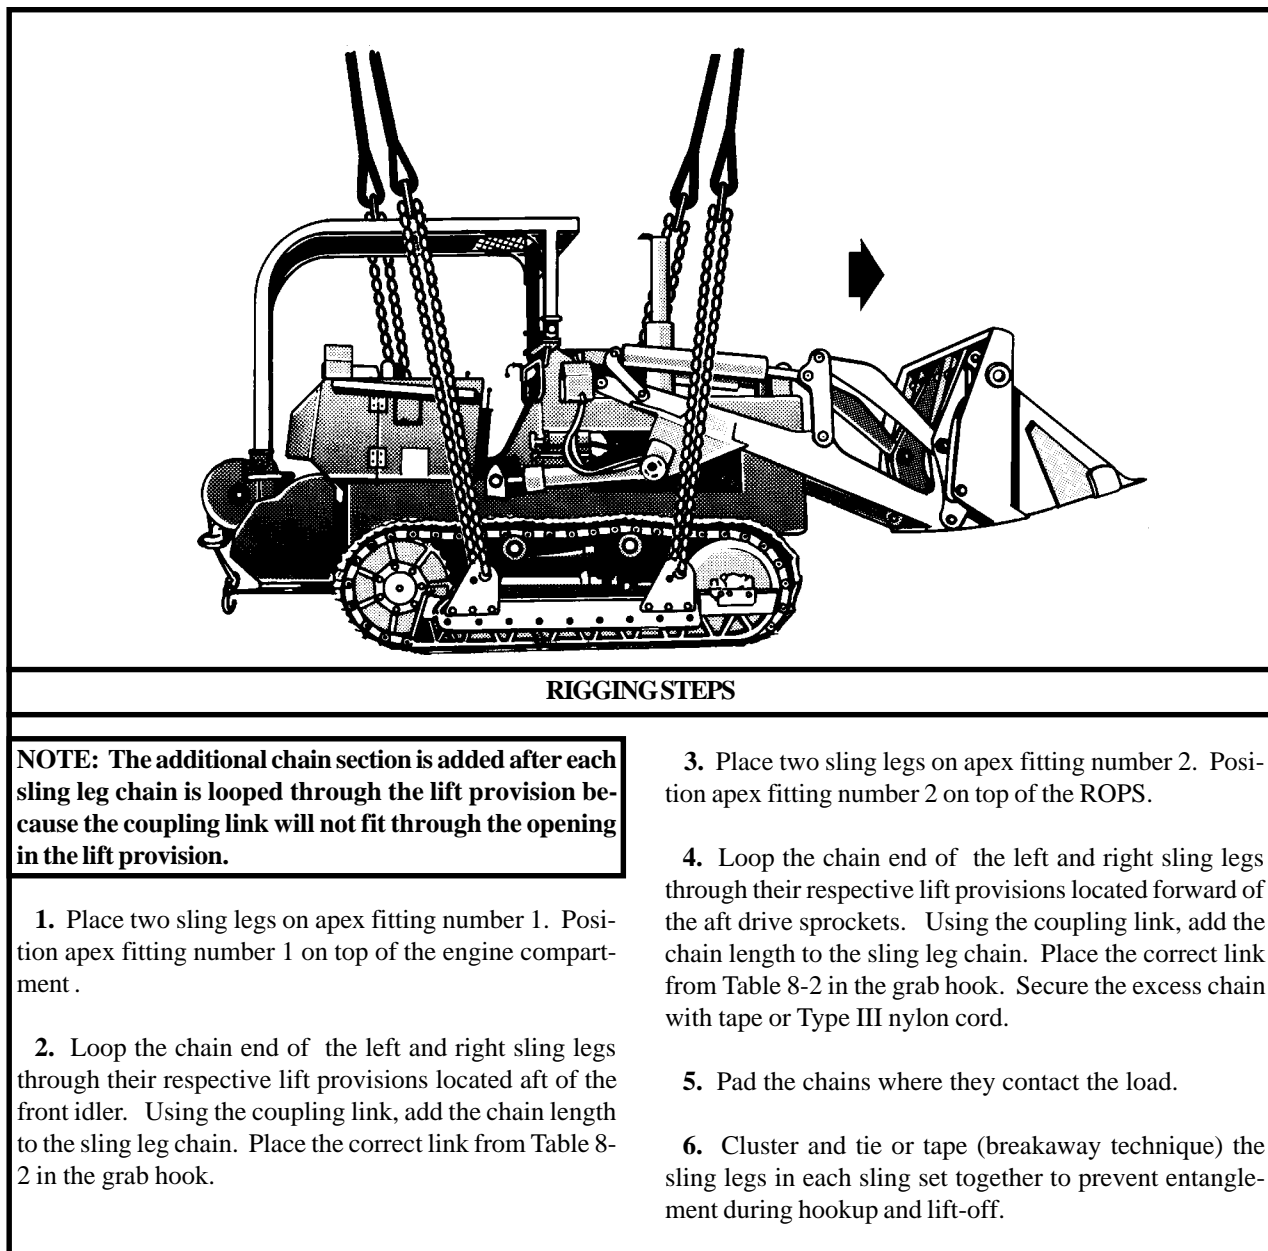

Figure 8-2. Tractor, Full-Track, Case Model 1150
(2) **Rigging.** Rig the load according to the steps in Figure 8-2.
(4) **Derigging.** Derigging is the reverse of the preparation and rigging procedures in steps d (1) and d (2).